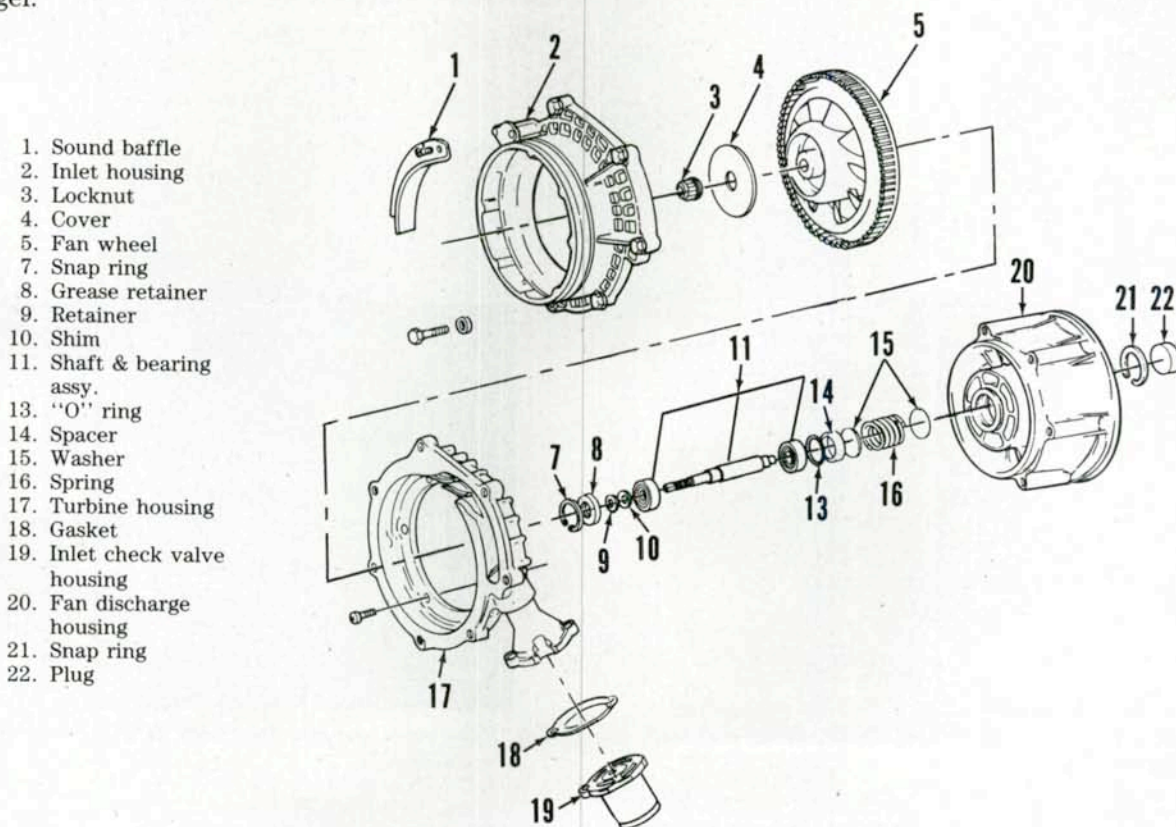

Fig. 134—Exploded view of intercooler tip turbine fan used on Model TW-35.
Prior to disassembly, mark the fan housings to ensure correct alignment when reassembling. Unbolt and remove check valve housing (19—Fig. 134) from turbine housing (17). Remove sound baffle (1) from inlet housing (2). Remove cap screws attaching inlet housing (2) to turbine fan housing, then separate the housings. Secure the fan shaft to prevent it from turning, remove locknut (3) and withdraw cover (4) and turbine wheel (5) from fan housing.
**NOTE:** It is not necessary to separate turbine housing (17) from discharge housing (2) unless renewal is necessary.
height between surface of housing and surface of fan wheel is the thickness of shims (10—Fig. 134) required. Install the correct thickness of shims, then tighten wheel retaining locknut to a torque of 145-155 in.-lbs. (16.4-17.5 N·m). Be sure fan wheel does not rub or bind when turned by hand. Renew turbine fan if wheel-to-housing contact cannot be corrected by shimming.